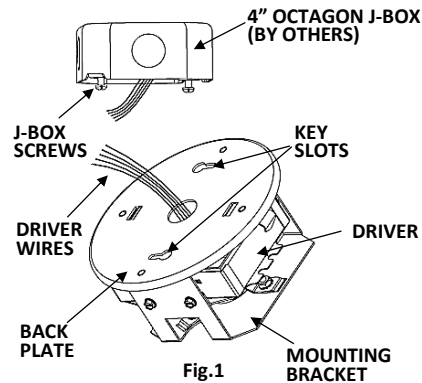

Fig.1
USING SUITABLE WIRE CONNECTORS (BY OTHERS). Fig.1
2. MOUNT BACK PLATE TO J-BOX Fig.1